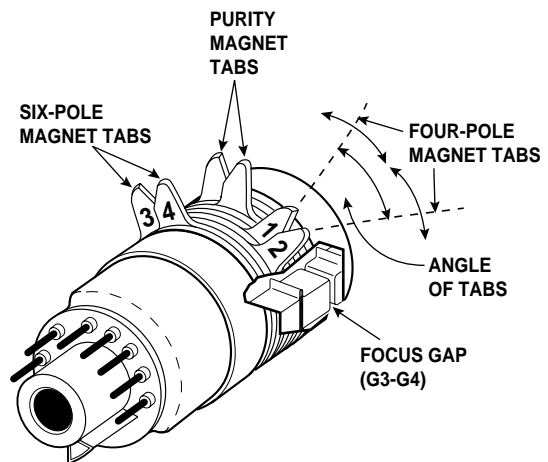

Figure 2. Purity and Convergence Magnets
2. Place the yoke on tube neck fully against glass. Place the CPM on the tube neck aligning the center of the purity magnet tabs (2 pole) over center of Focus Gap (G3 & G4). See Figure 2.
3. Adjust the angle between the four-pole magnet tabs 1 and 2 (Figure 2), and superimpose the red and blue vertical lines in the center area of the picture screen. See Figure 4.